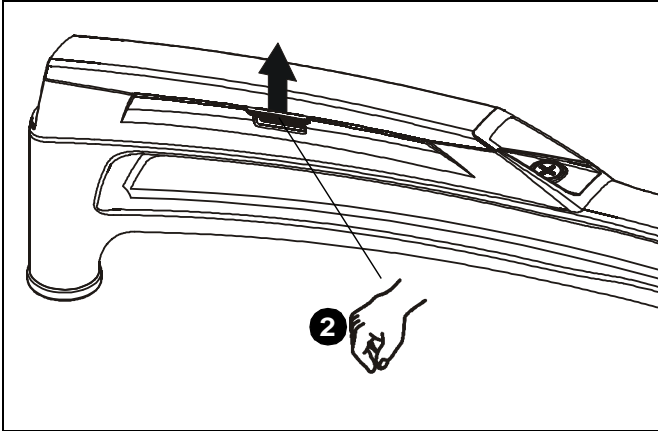

Figure 14
2. Open cable management covers on upper and lower swing arms by unhinging center tabs and lifting covers to the open position. (See Figure 14)